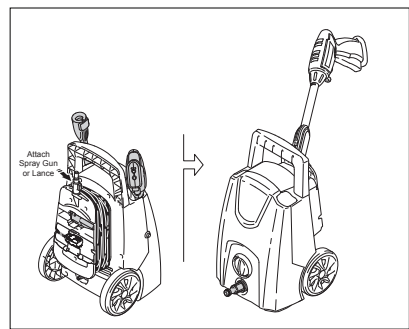

Fig. 24
- Place accessories in compartments built into the power washer. (Fig. 24)